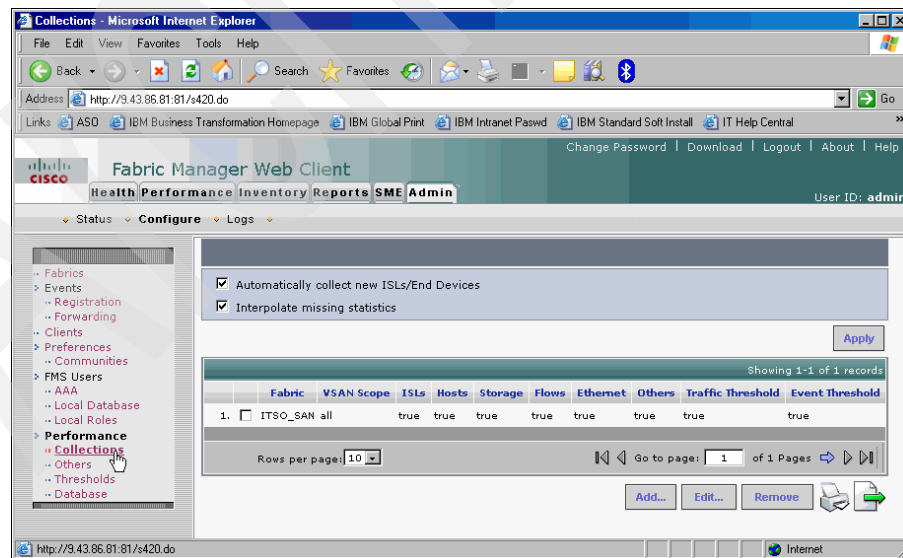

Figure 4-3 Configure performance collection in the Cisco Fabric Manager Web Client
- **Summary and drill-down reports:** The Performance Manager summary report provides a high-level view of your network performance. These reports list the average and peak throughput and provide hot-links to additional performance graphs and tables with additional statistics. Both tabular and graphical reports are available for all interconnections monitored by Performance Manager. Performance Manager also analyzes daily, weekly, monthly, and yearly trends. These reports are only available if you create a collection using Performance Manager and start the collector as shown in Figure 4-3.